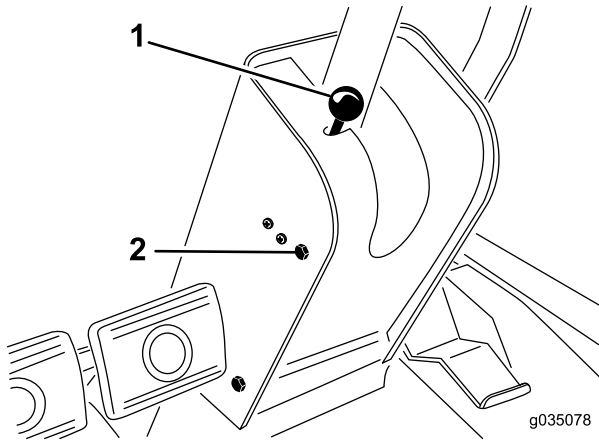

Figure 32
1. Remove the knob from the parking brake and the screws from the steering-column cover (Figure 32).